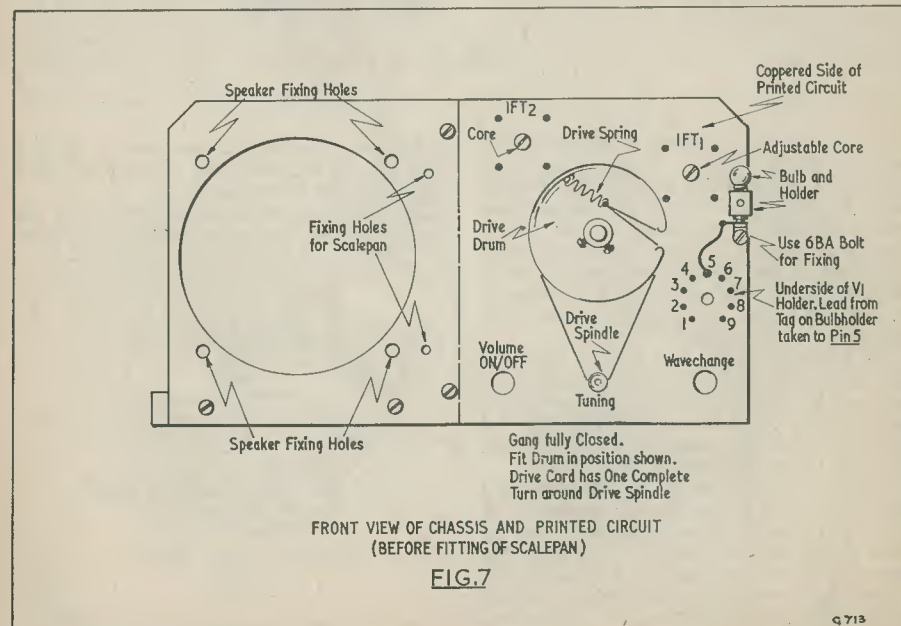

FIG. 7
should now be fitted, see Fig. 7. Fit the drum as far back as possible, just clearing the heads of the four 4BA ganged condenser fixing bolts (Fig. 2).
38. Fit the drive spring and the nylon cord drive. (Fig. 7.)
39. The pilot bulb is now fitted to the holder and mounted on the earthy edge of the copper foil shown in Fig. 7 using a 6BA x $\frac{1}{4}$ in bolt and nut. A lead is taken from the bulb holder tag to pin 5 on V_1 valveholder. Ensure that the bulb holder is mounted upright in order to avoid the bracket shorting to other live portions of the copper foil.
52. With reference to Fig. 7, it will be seen that the speaker panel has one corner removed. This should be noted during the following operation.